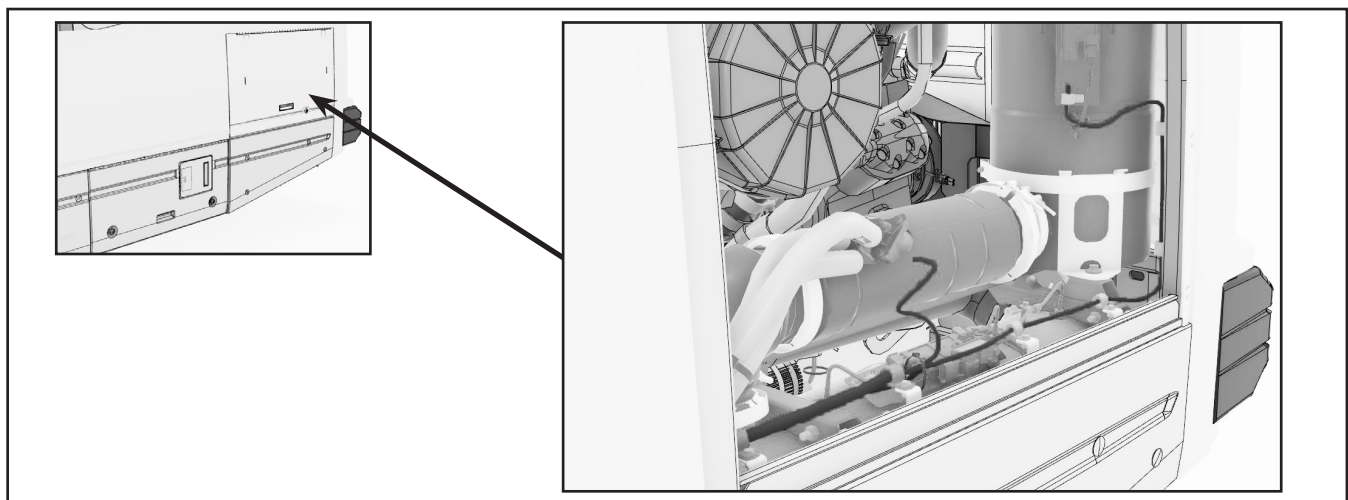

Figure 7 - Section of WHA 64 in Engine Compartment (Typical Installation)
1.18. Remove and discard the cut section of the WHA 64 going into the engine compartment, around the after-treatment system (Figure 7).
- 1.21. Route the wire kit in the engine compartment like the removed old section of the WHA 64. Connect all connectors and secure (ref. Figure 7).